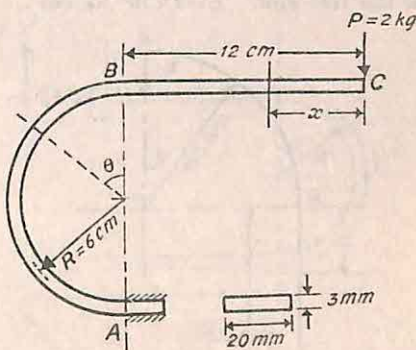

Fig. 39
19. A steel spring  $ABC$ , of the dimensions shown in Fig. 39 is firmly clamped at  $A$ . If a load of 2 kg is supported at  $C$ , find the vertical deflection at this point. Neglect the effect of shear and take  $E = 2 \times 10^6 \text{ kg/cm}^2$ . (Lond. Univ.)